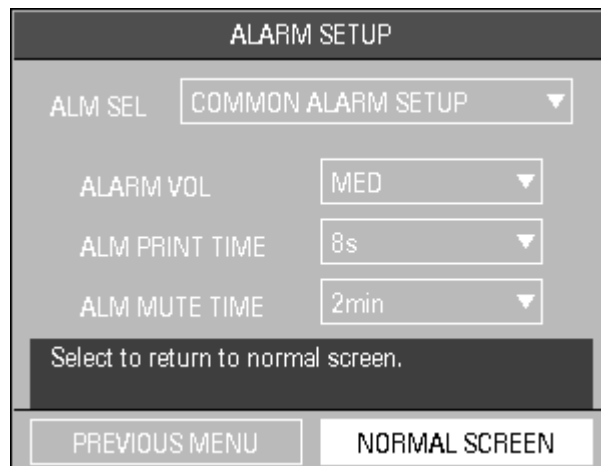

FIGURE 2-47 Common Alarm Setup Menu
- Using the Navigator™ Knob, select **ALARM SETUP** from the **MONITOR SETUP** menu. The default **ALARM SETUP** menu is the **COMMON ALARM SETUP** as shown in FIGURE 2-47.